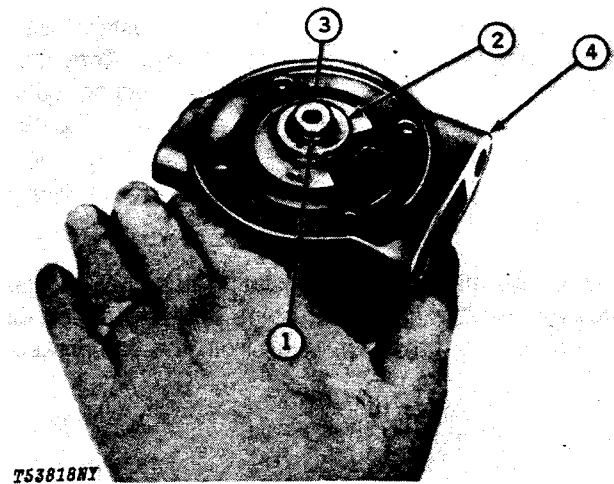

Fig. 14-Install Piston Ring On the Thrust Collar.
Install piston ring (1, Fig. 14) on thrust collar (2). Place thrust collar, with channeled side toward center housing, over shaft (3), and flat against the center housing, (4), engaging the pins in the back side of the thrust washer.